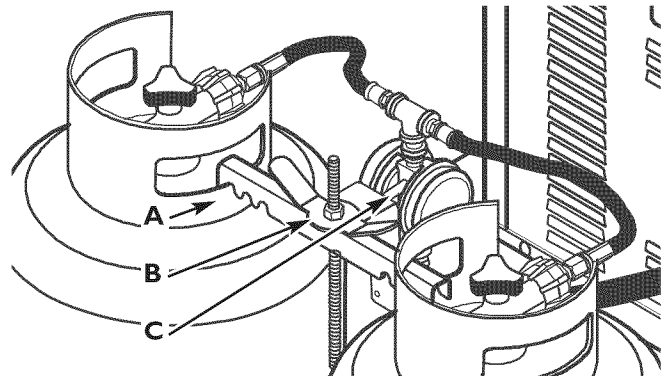

Figure 8 — Properly-Secured LP Fuel Tanks
5. Thread the wing nut **CLOCKWISE** onto the threaded rod. Hand tighten wing nut against fuel hose/regulator assembly, ensuring hold-down bracket notches remain engaged with LP fuel tank collars and LP fuel tanks are held firmly. See Figure 8.